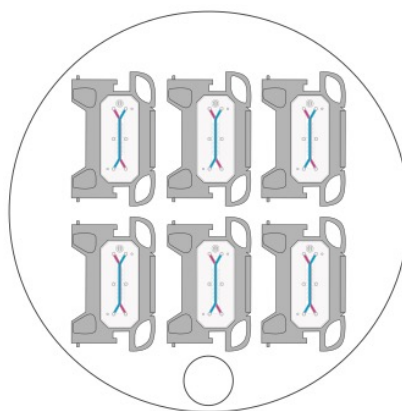

Figure 1: Proper orientation of Organ-Chips in 150 mm dish
2. Open the packaging carefully, and lay out 6 chips in each sterile 150 mm dish. Note: For ease of workflow, align all chips facing the same direction in the 150 mm dish. To properly orient the chips, ensure the tab of the carrier is facing to the right, and all chips are in the same orientation. (See Figure 1)